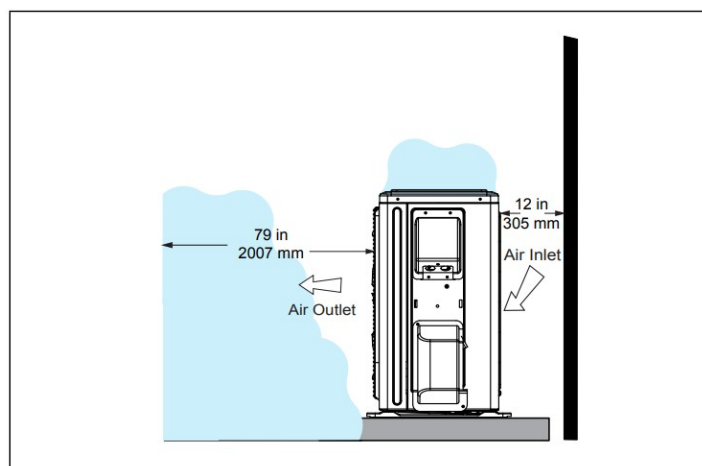

Figure 25. Outdoor Unit Air Flow Obstructed by Snow
- In heavy snow areas, do not place the unit where drifting will occur as illustrated in "Figure 25. Outdoor Unit Air Flow Obstructed by Snow".